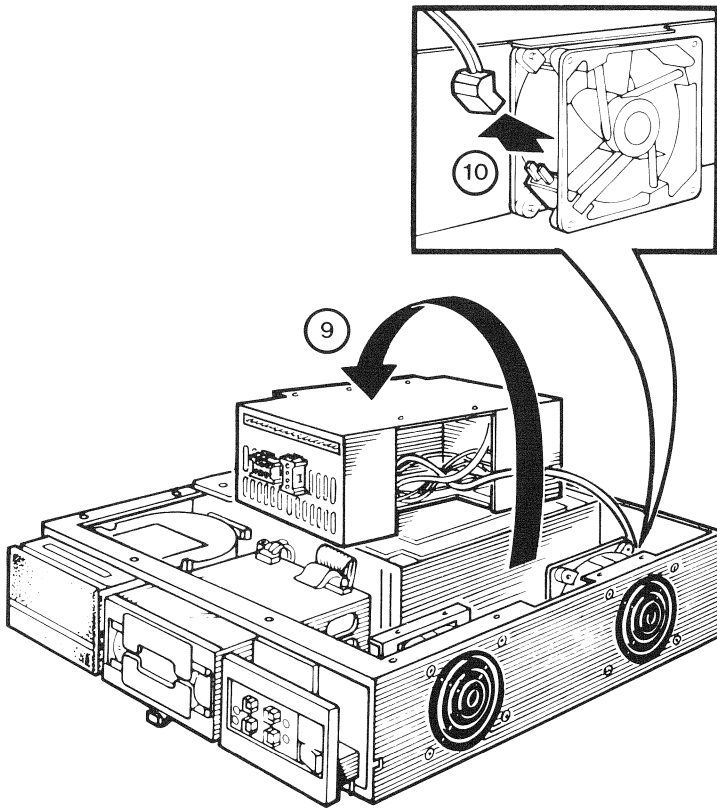

Figure 8-23 Power Supply and Fan Connector Removal
9. Lift the power supply assembly out of the chassis and rest it on top of the Q22-Bus module cover (Figure 8-23).